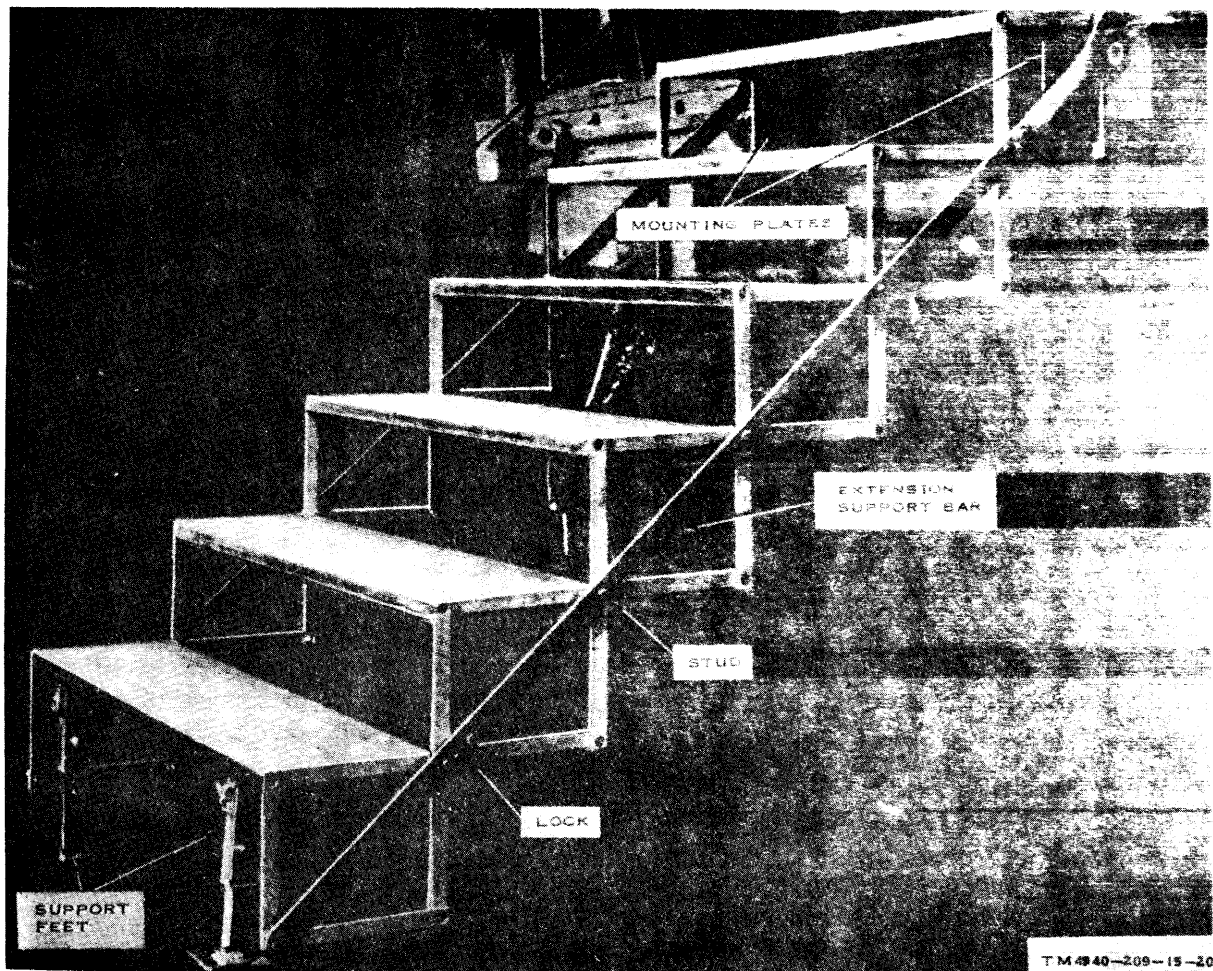

Figure 2-3. Folding stair assembly.
- (6) Turn the lever bar until the leveling jack is seated in the leveling jack pad.
- (7) Turn the landing gear cranks and the leveling jack levers as necessary until the levels on the van indicate that the van is level.
- (8) Remove the personnel ladders from their transit storage position under the van and install them at the rear and curbside doors.
*d. Installing Stair Assembly* (fig. 2-3).
- (1) Remove the stair assembly from its storage location under the van.
- (2) Open the stair assembly and extend it to its full length.
- (3) Position the holes in the extension support bar over the studs at each side of each hinged step section.
- (4) Secure the extension support bar lock at the top and bottom stair assembly studs.
- (5) Position the holes in the mounting plates over the mounting bolt holes at the bottom of the entrance door; insert and secure the mounting bolts.
- (6) Extend the support feet at each side of the bottom step and lock them in the extended position.